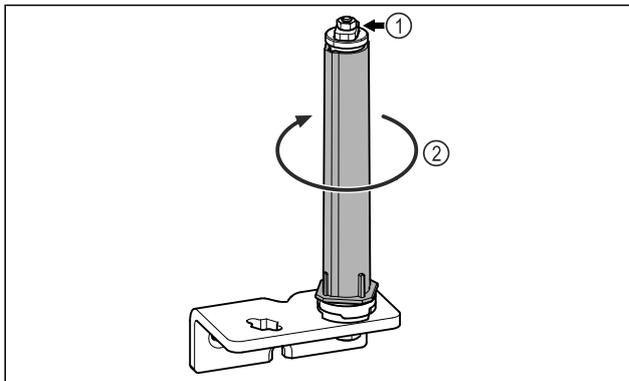

Fig. 21
- ▶ Do not disassemble the door locking system Fig. 21 (1).
- ▶ Turn the locking system Fig. 21 (2) until it clicks.